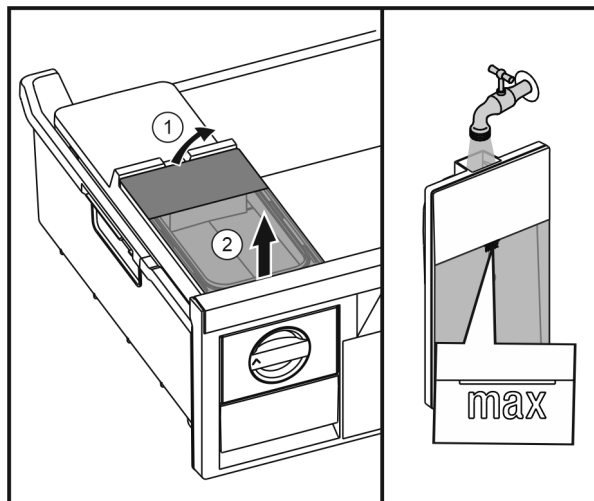

Fig. 38
- ▶ Lift up the water tank at the rear Fig. 38 (1) and take it out upwards Fig. 38 (2).